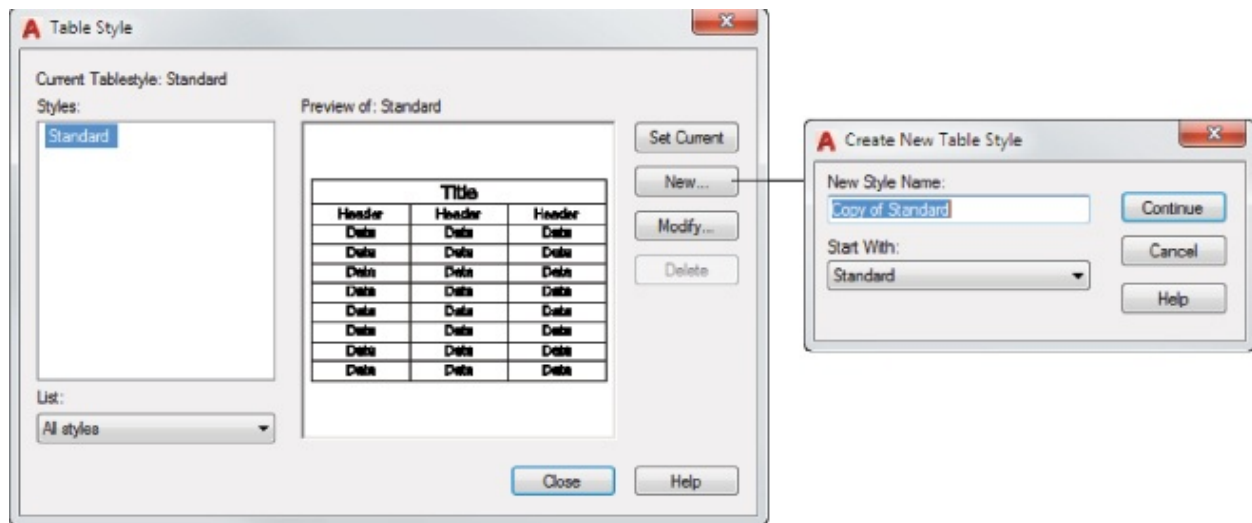

FIGURE 10.22 The Table Style dialog box
2. You can also select the Table Style tool from the Annotate tab's Tables panel title bar. The Table Style tool is the arrowhead at the right end of the Tables panel title bar. You see the Standard table style in the Styles list box (see Figure 10.22). This is the one you used in the previous exercises.